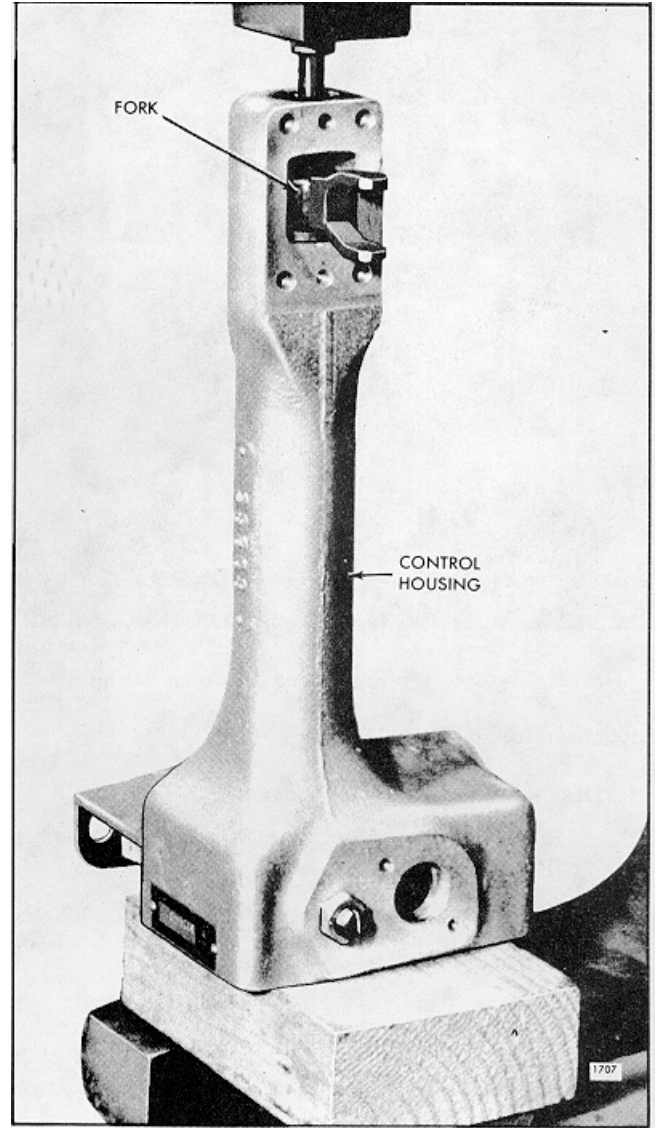

Fig. 5 Removing Operating Fork from Operating Shaft
- e. Remove the expansion plug (41) out of the lower end of the control housing.
- f. Remove the bearing retaining screw (32), flat washer (33), and lock washer.
- h. Support the control housing as shown in Fig. 5. Press the operating shaft (26) from the operating fork (73) using a brass rod. Withdraw the operating shaft, operating lever (27), and bearing (30) as an assembly from the control housing.